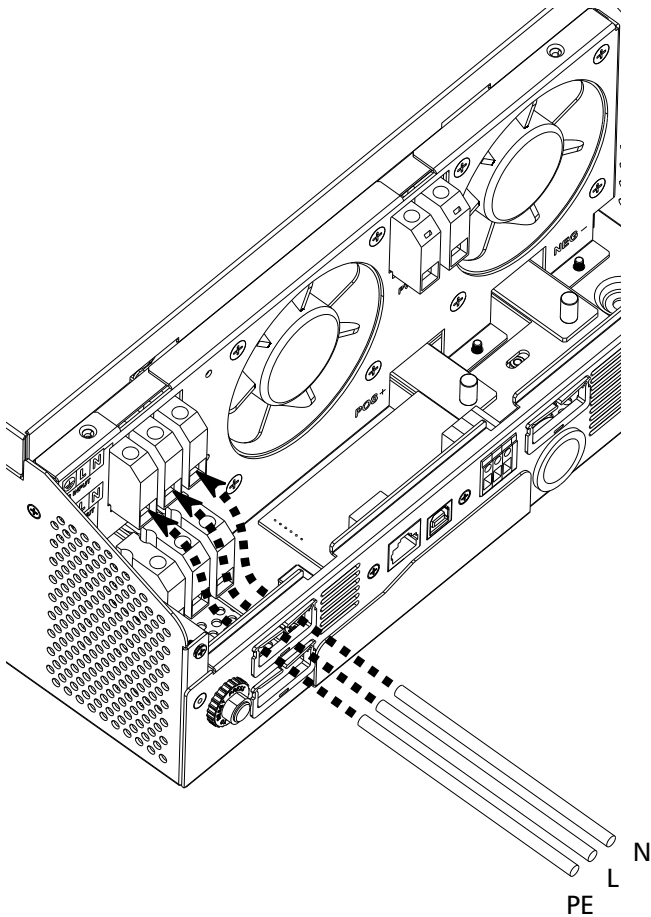
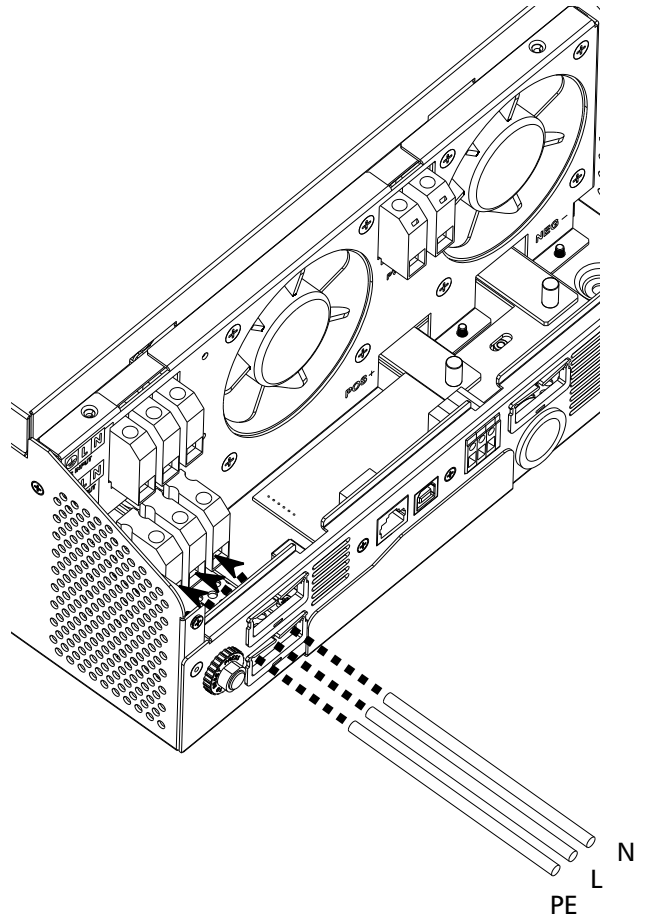

Figure 7: AC input conductor connection
Figure 8: AC output conductor connection
4. Connect the PE (⊕ - protective earth) cable of the AC input (*Figure 7*) to the corresponding terminal on the inverter and connect the PE (⊕ - protective earth) conductor of the AC output (*Figure 8*) to the corresponding terminal on the inverter. Tighten the terminal clamps with a torque of 1.4 - 1.6 Nm.
5. Connect the L (phase) and N (neutral) conductors to the respective AC input (*Figure 7*) and AC output (*Figure 8*) terminals. Tighten the terminal clamps with a torque of 1.4 - 1.6 Nm.